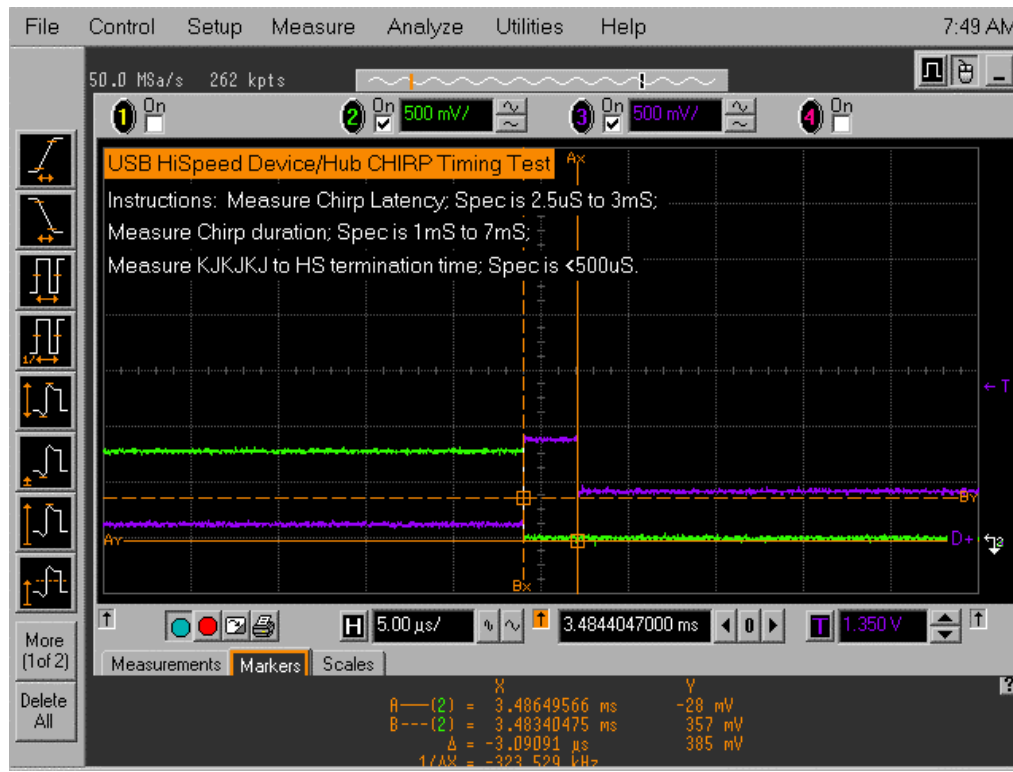

Figure 43. Time From Start of Last J in CHIRP K-J-K-J-K-J To Device Turns on HS Termination
7. Following the host assertion of alternate sequence of Chirp-K and Chirp-J, the hub must respond by turning on its high-speed terminations. This is evident by a drop of amplitude of the alternate Chirp-K and Chirp-J sequence from the 800mV nominal to the 400mV nominal. (Figure 43)